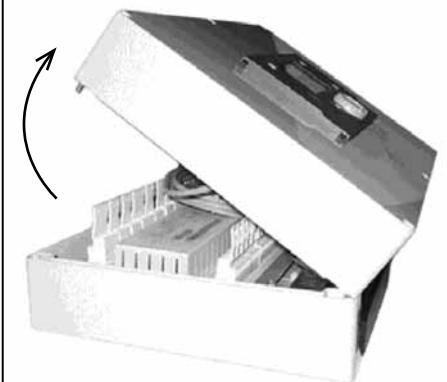

Fig.2
- Retirer le couvercle (fig.2)